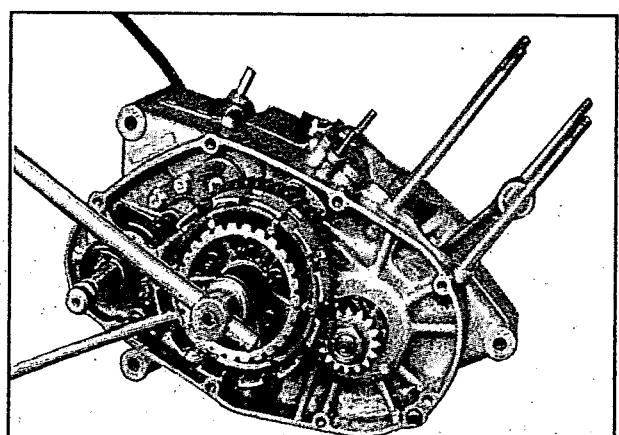

Fig 3.23
- Flatten the lock washer, and remove the hub nut by using the special tool (fig 3.23)